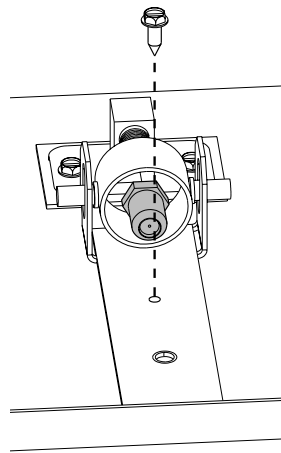

Figure 25. Burner injector and LP stop screw.
8. **Change the Burner Injector.** See fig. 25. Using a 1/2" open end wrench or deep-well socket remove the burner orifice from its brass elbow housing and replace with the appropriate orifice supplied in the kit.
- A) Install the stop screw into the air shutter plate. See fig. 25.